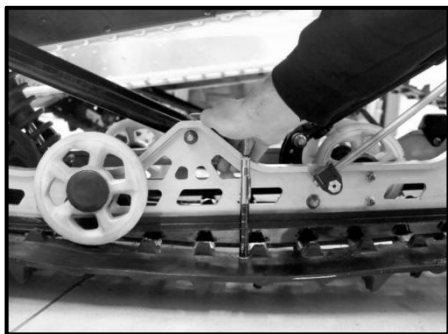

Fig. 36
8. Click the gauge to align its bottom ring with the bottom edge of the slider (Fig. 36).